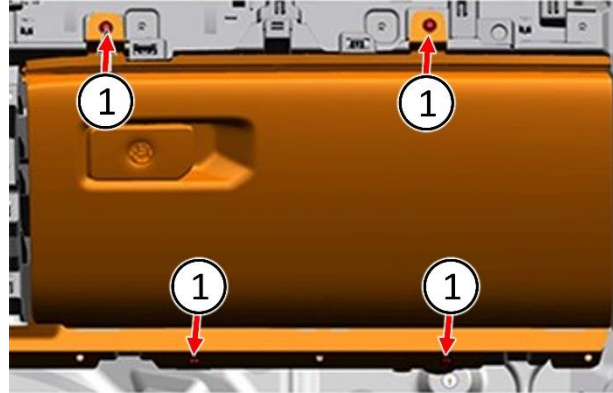

Figure 8 – Glove Box Screws
15. Remove the four screws (1) securing the glove box (Figure 8).
45. Install the four mounting screws (1) and tighten securely (Figure 8).